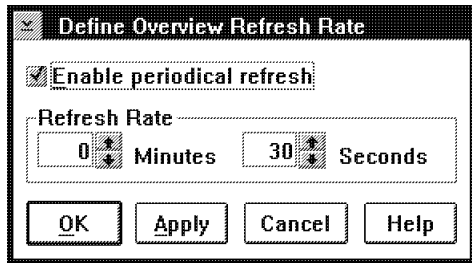

Figure 48. Define Overview Refresh Rate Window
1. Select **Auto refresh** from the **Options** pull-down in the Overview window. You see the Define Overview Refresh Rate window shown in Figure 48 on page 85.